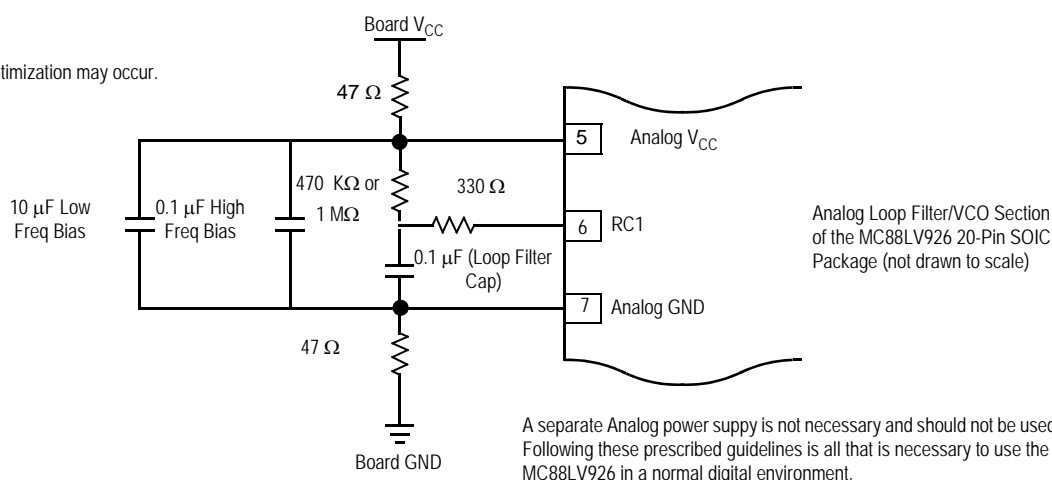

Figure 7. Recommended Loop Filter and Analog Isolation Scheme for the MC88LV926
1. Figure 7 shows a loop filter and analog isolation scheme which will be effective in most applications. The following guidelines should be followed to ensure stable and jitter-free operation:
2. In addition to the bypass capacitors used in the analog filter of Figure 7, there should be a $0.1\ \mu\text{F}$ bypass capacitor between each of the other (digital) four V_{CC} pins and the board ground plane. This will reduce output switching noise caused by the 88LV926 outputs, in addition to reducing potential for noise in the 'analog' section of the chip. These bypass capacitors should also be tied as close to the 88LV926 package as possible.